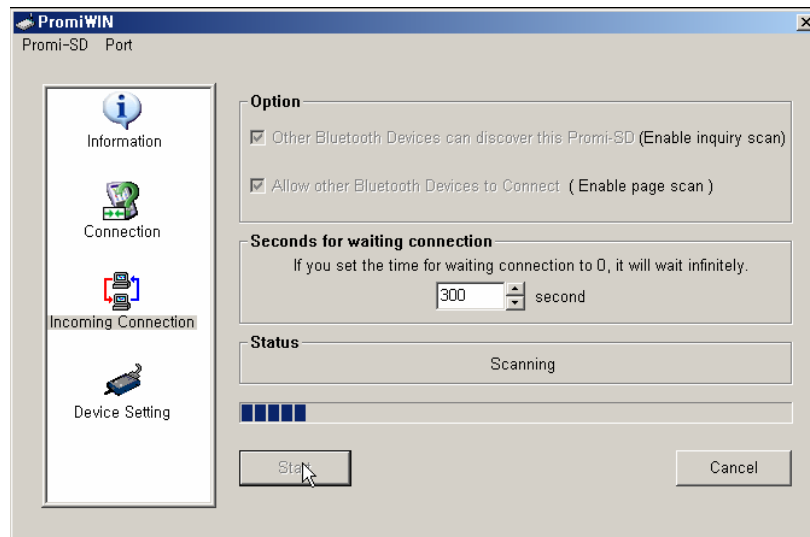

Figure 3.
6. Click the 'Incoming Connection' icon in list control box. Check both options and then click the 'Start' button as shown in Figure 3. The SD1 now starts